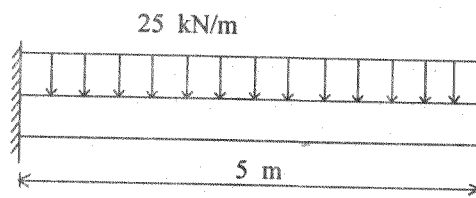

Fig. 3
13. Determine the deflection at the tip of the cantilever for the beam shown in Fig. 3. Take I of the beam $= 120 \times 10^{-6} \text{ m}^4$. $E = 200 \text{ GPa}$.